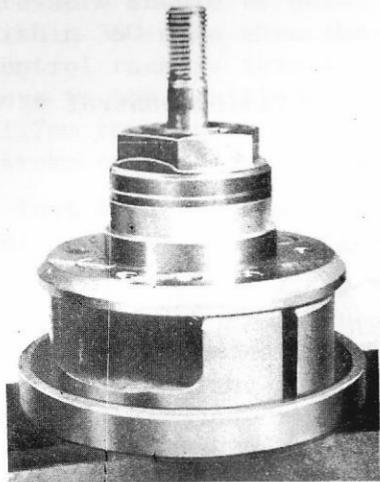

Fig. 9-70
Hold a special mount plate (EFEP131C) (Fig. 9-70) in a vise, set the hole of the flyweight holder of the injection timing control to the boss of the mount plate.
4) Dismount the spring of the injection timing control, and its adjusting washer, and also the flyweight from the flyweight holder. (Fig. 9-70)